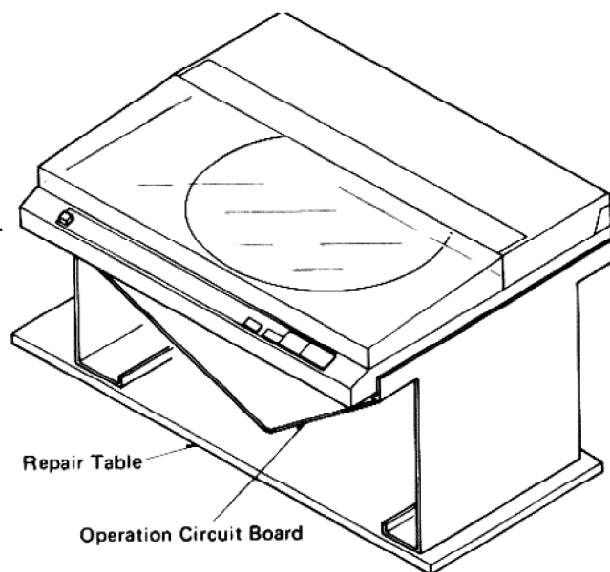

Fig. 7
1. How to use the repair table (Fig. 7)
- ① Remove the bottom board.
- ② Remove the operation circuit board and connect the P.C.B. ground terminal to the chassis (Stator frame.)
- ③ Put the unit on the repair table.
- ④ Fit the turntable platter and put on the turntable mat.
- ⑤ Put on the record and check the circuits from under the unit.